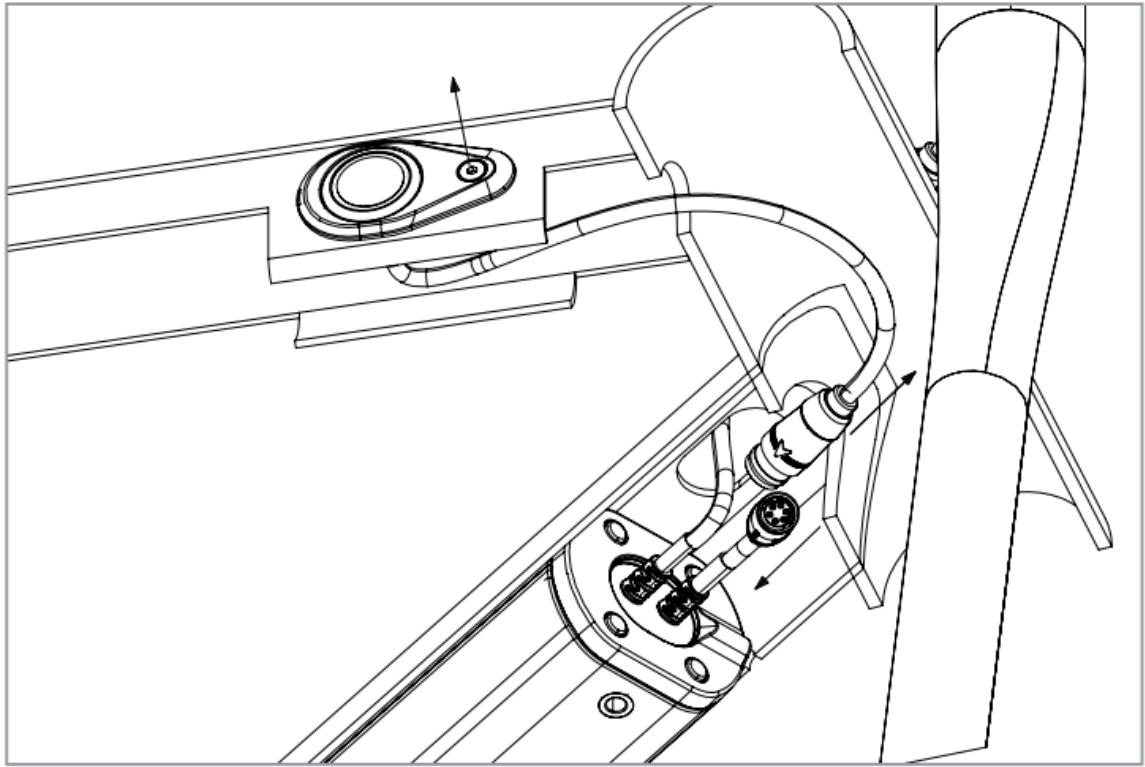

Figure 9
- a. Use a 2mm hex key wrench to remove the bolt from the iWOC One controller (Figure 9).